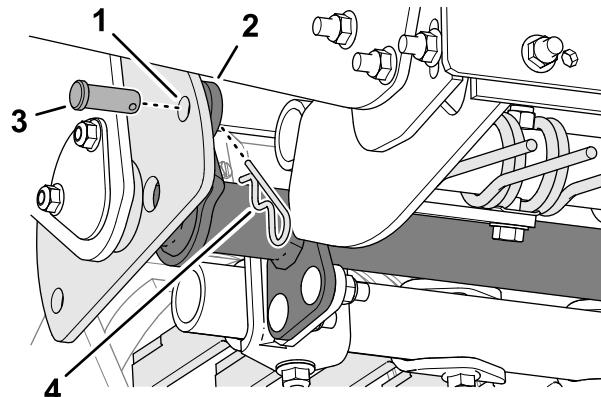

Figure 16
6. Align the hole in the multi-tool arm with the hole in the angle-select plate (Figure 16).